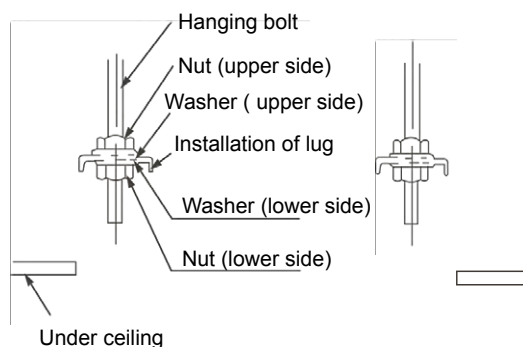

Figure 3.6
- 1) Adjust the location of the nut, and determine the space between the washer (lower side) and the ceiling according to the actual construction situation. Refer to Figure 3.6.